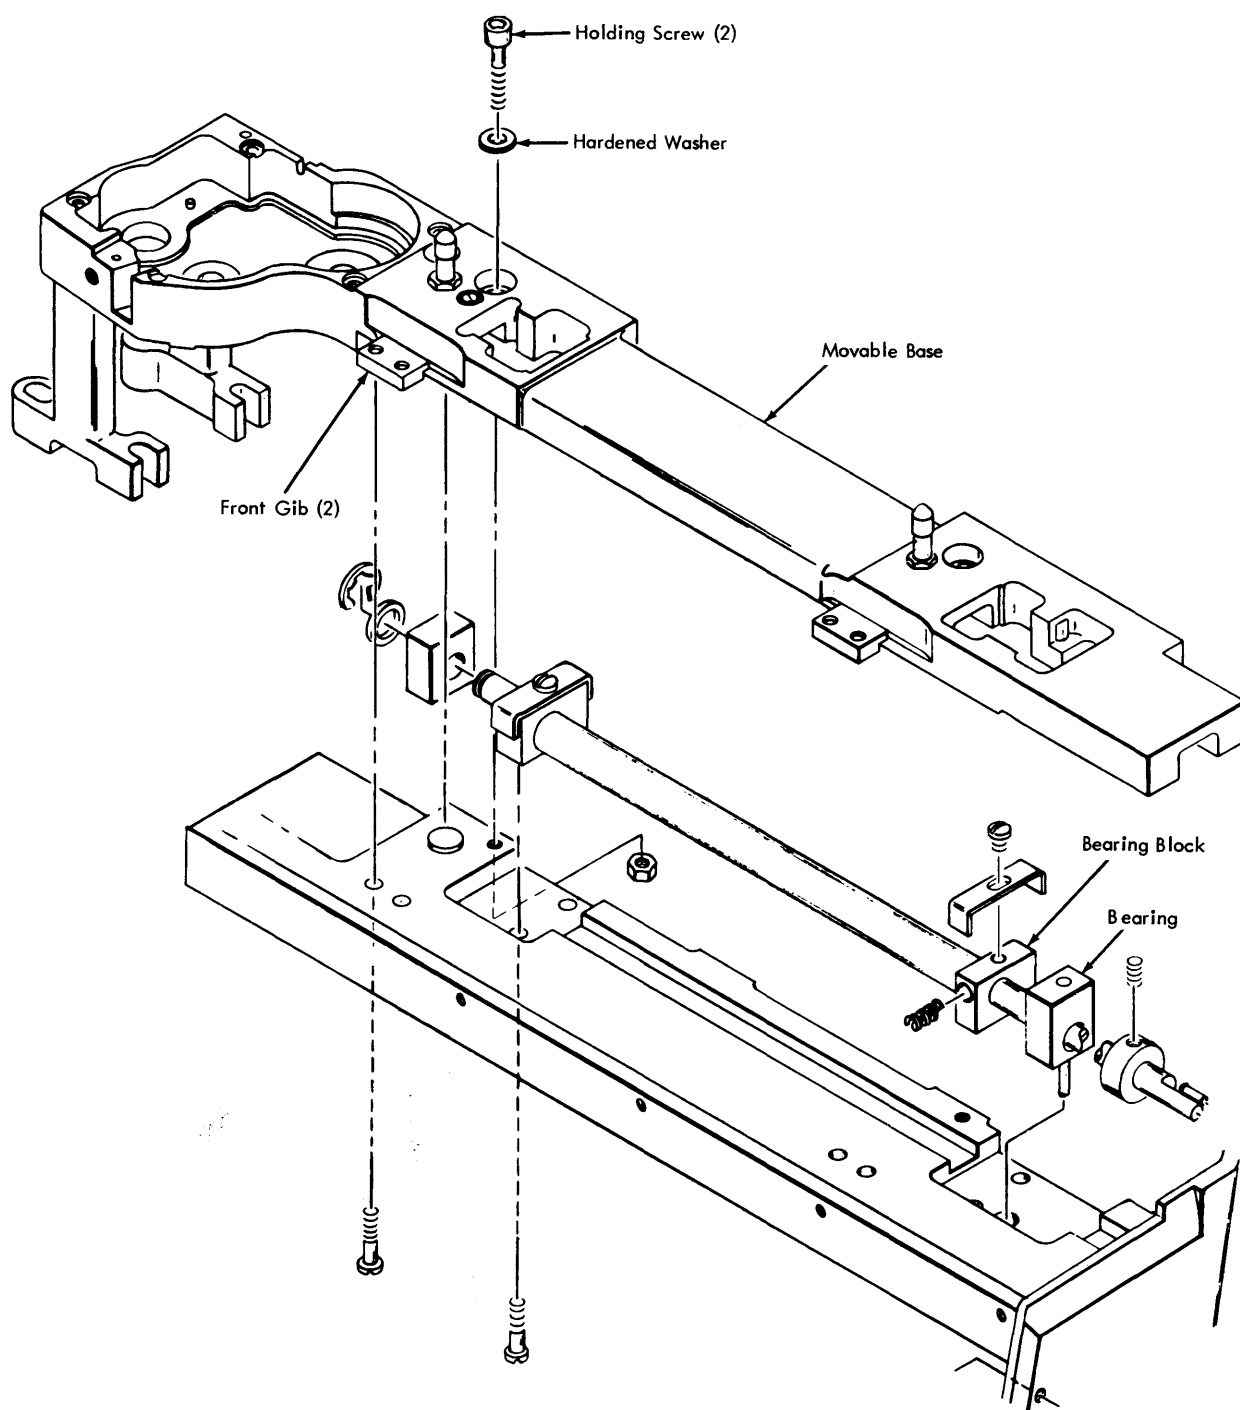

Figure 69. Movable Base (Model 3)
7. Remove the two movable base front gibs (Figure 69).